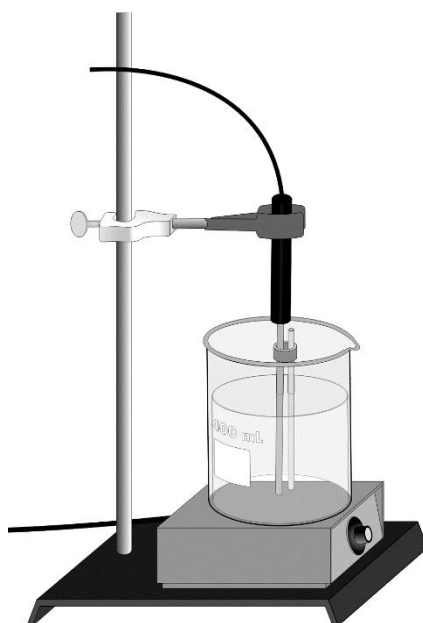

Figure 1
5. Use a rubber band to fasten the capillary tube to the Temperature Probe. The tip of the tube should be even with the tip of the probe. Use a utility clamp to connect the Temperature Probe to a ring stand. If necessary, place the probe in a split stopper or a cork to secure it in the clamp (see Figure 1).